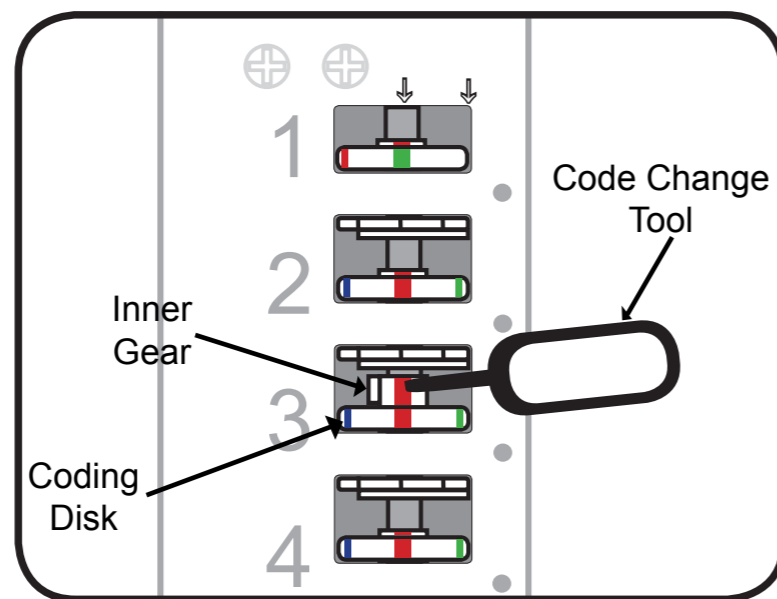

Fig.5
4. Choose what the unit wants to be coded to. To change how a button is set in the code – insert the code change tool (part no.19) into the small hole in the top of the inner gear and then it can be lifted upwards, this will expose a red line on the inner gear (as per fig.5).